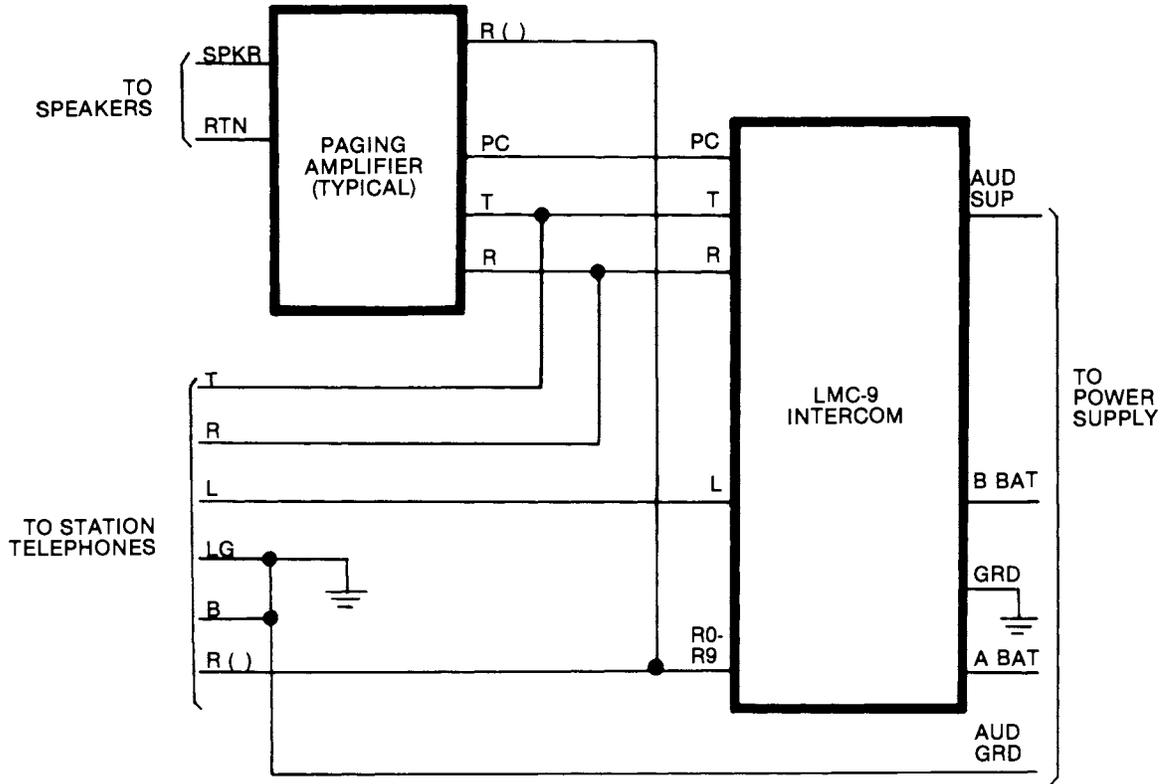

Fig. 3 — LMC-9 with Paging.
3.01 Make cross connections from the appropriate connecting block to all stations on the intercom line (see Fig. 3).